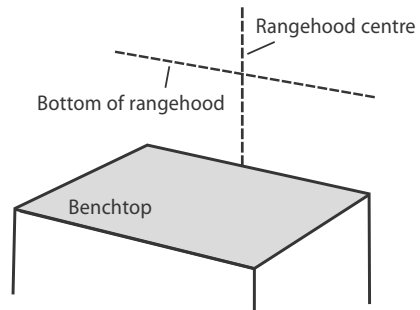

Fig.3 Marking the position of the rangehood on the wall
- 2 Mark the position of the rangehood on the wall. Using a spirit level, also mark a vertical line intersecting the horizontal line, (ensuring that the line can easily be erased or will be hidden after installation) showing the position where the centre of the rangehood will be. This is normally over the centre of the cooktop (Fig.3).